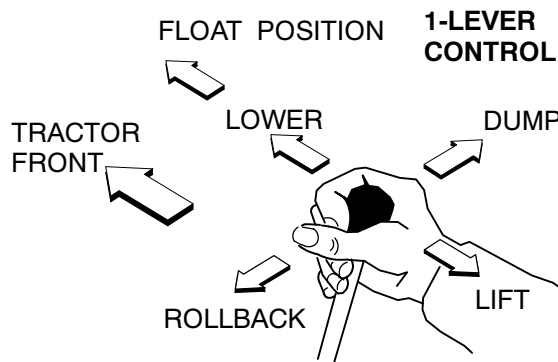

Figure 22 Single Lever Control Operation
4. Check that all hydraulic control lever positions operate the loader movements correctly as shown in Figure 22.